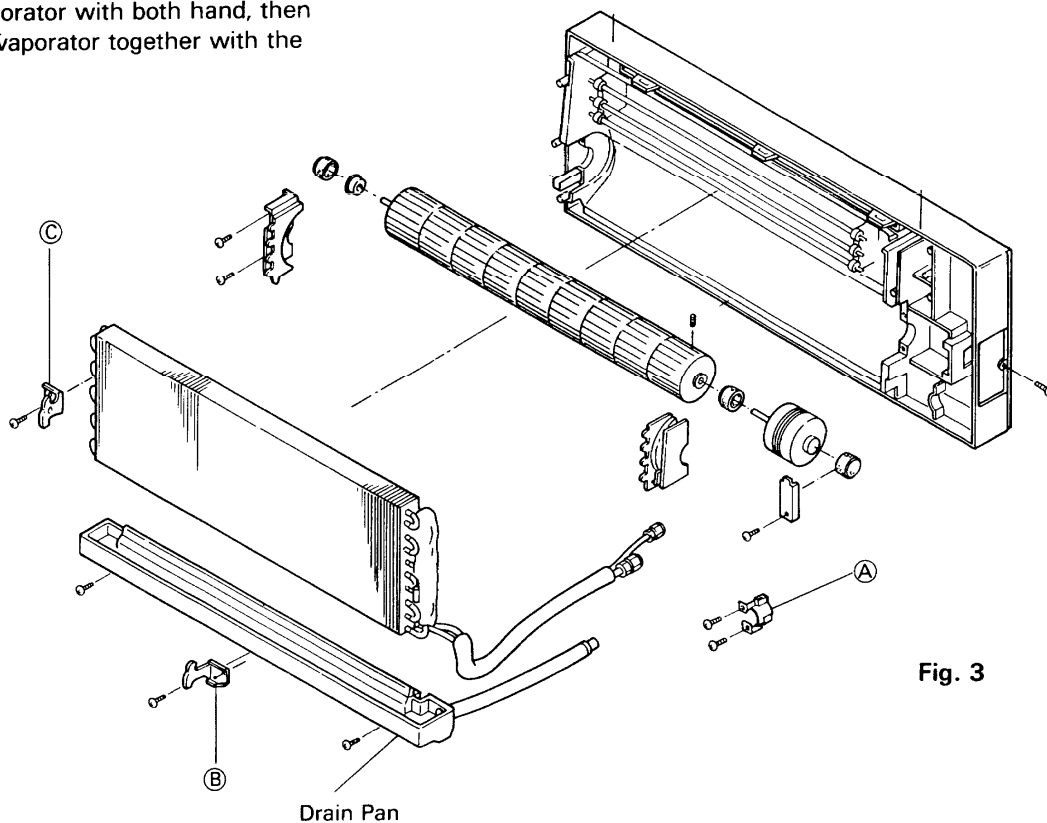

Fig. 3
- 2) Remove the refrigerant piping holder (A).
- 3) The drain pan can be pulled out after removing the screws shown in Fig. 3.
- 4) Loosen the fixing screws of the evaporator mounting plates (B) and (C), and remove them respectively.